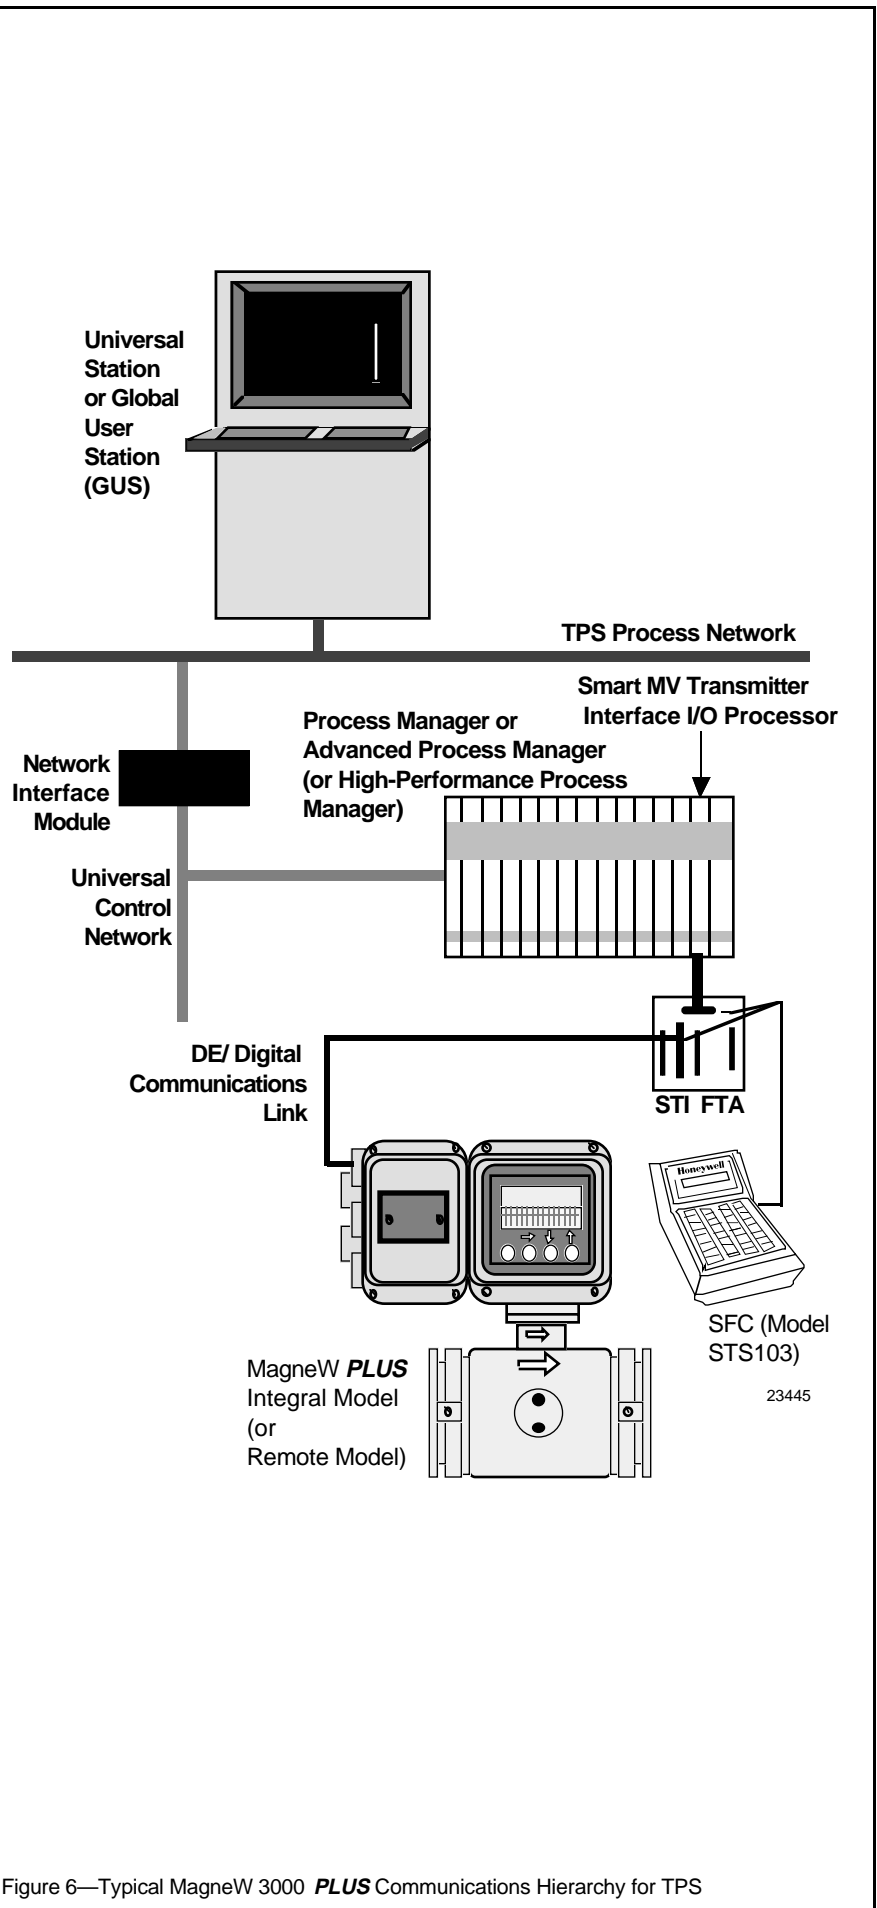

Figure 6—Typical MagneW 3000 **PLUS** Communications Hierarchy for TPS
To “talk” to a flowmeter through displays at the Universal Station or GUS, the transmitter is connected to a Smart MV Transmitter Interface Input/Output Processor (STI IOP) in the Process Manager (PM), Advanced Process Manager (APM), or High-Performance Process Manager (HPM) through an FTA as shown in Figure 6. The flowmeter must be in the DE mode to communicate with the STI IOP.